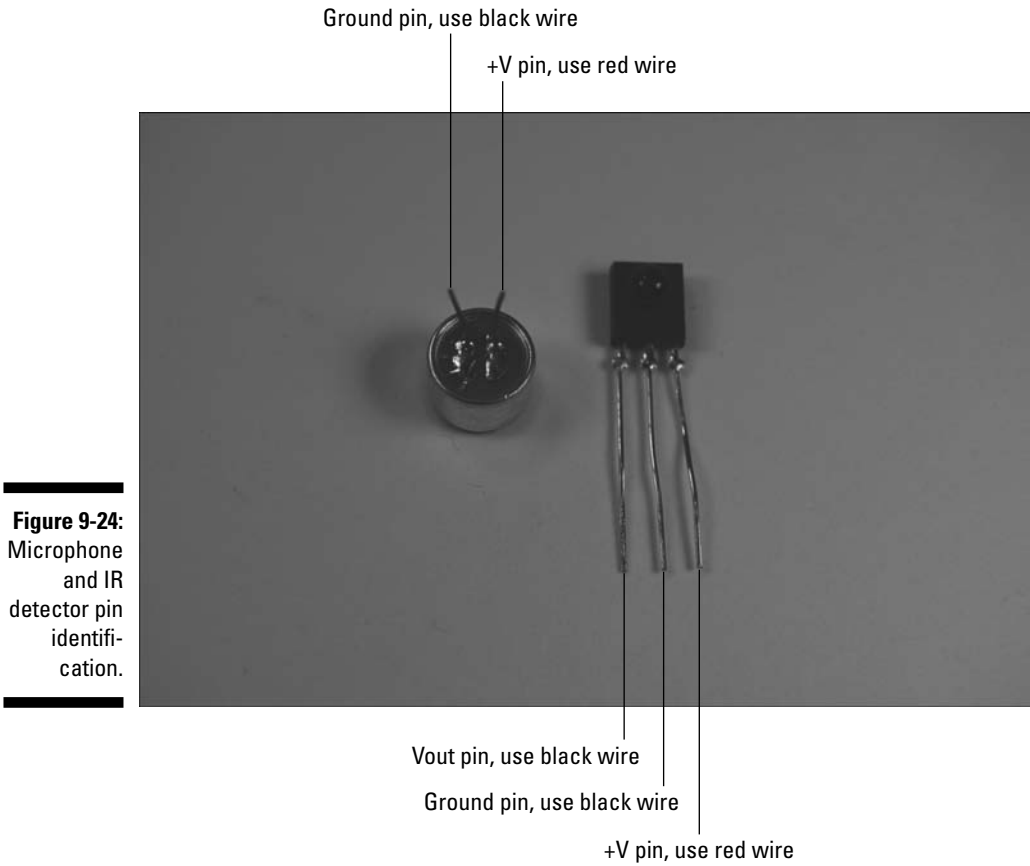
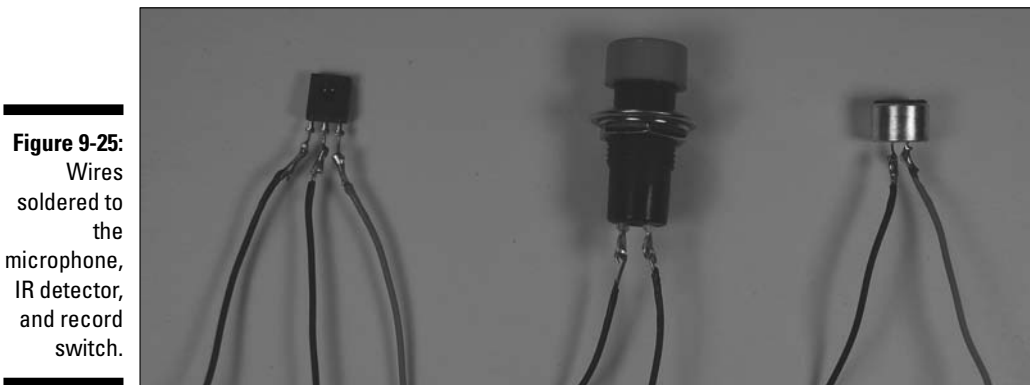

Figure 9-24:
Figure 9-25:
8. **Connect a 6" red wire and a 6" black wire to the microphone pins, as indicated in Figure 9-24. Then solder them, as shown in upcoming Figure 9-25.**
9. **Connect a 6" red wire and two 6" black wires to the IR detector pins, as indicated in Figure 9-24; then solder them, as shown in upcoming Figure 9-25.**
10. Connect two 10" wires (any color works) to the record switch and solder them, as shown in Figure 9-25.